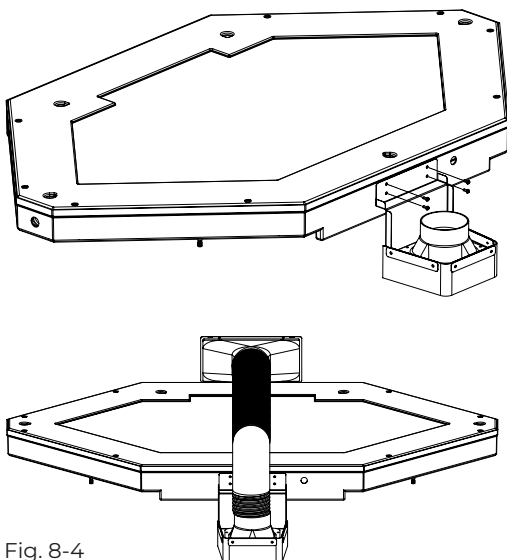

Fig. 8-4
2. Continue preassembling the air flow tube on the backside of the roof element. Screw the metal bracket fig on the backside of the roof element by using 4 screws ST4*16 galvanized cross pan heads (6-1) in the pre marked 4 holes shown in (Figure 8-4).